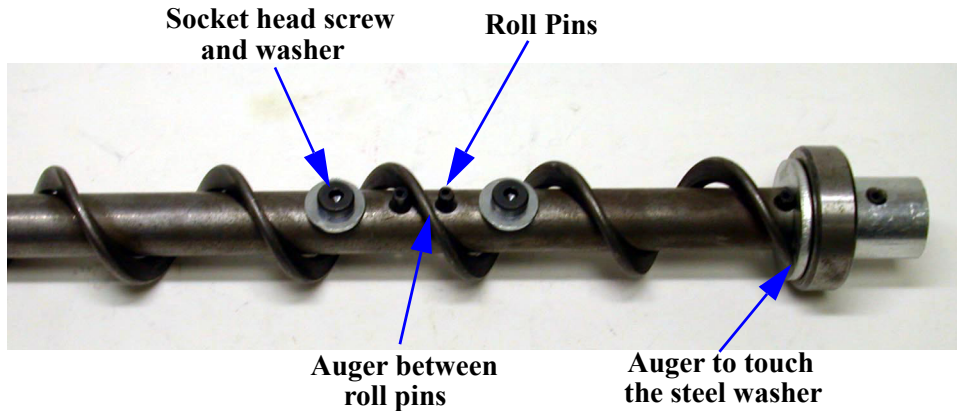

Figure 54. Auger and anchor Bearing Connection
1. Insert the Anchor Assembly into the auger until it touches the washer at the back of the anchor. Tighten the setscrews in the center of the anchor until they touch the auger, then tighten a maximum of 1/2 turn. See **Figure 54**.